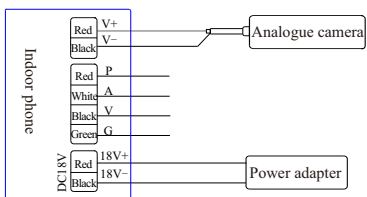

FIG. 8
(6) Wiring diagram of the analogue camera (FIG.8)